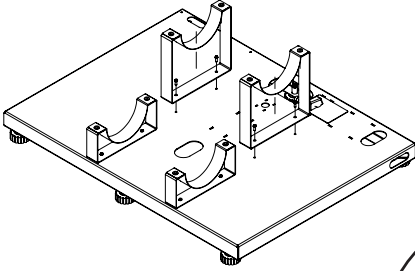

Fig 16.1 Primary boiler bracket assembly
2. Fix the Boiler base bracket on the base frame. (fig.16.1)